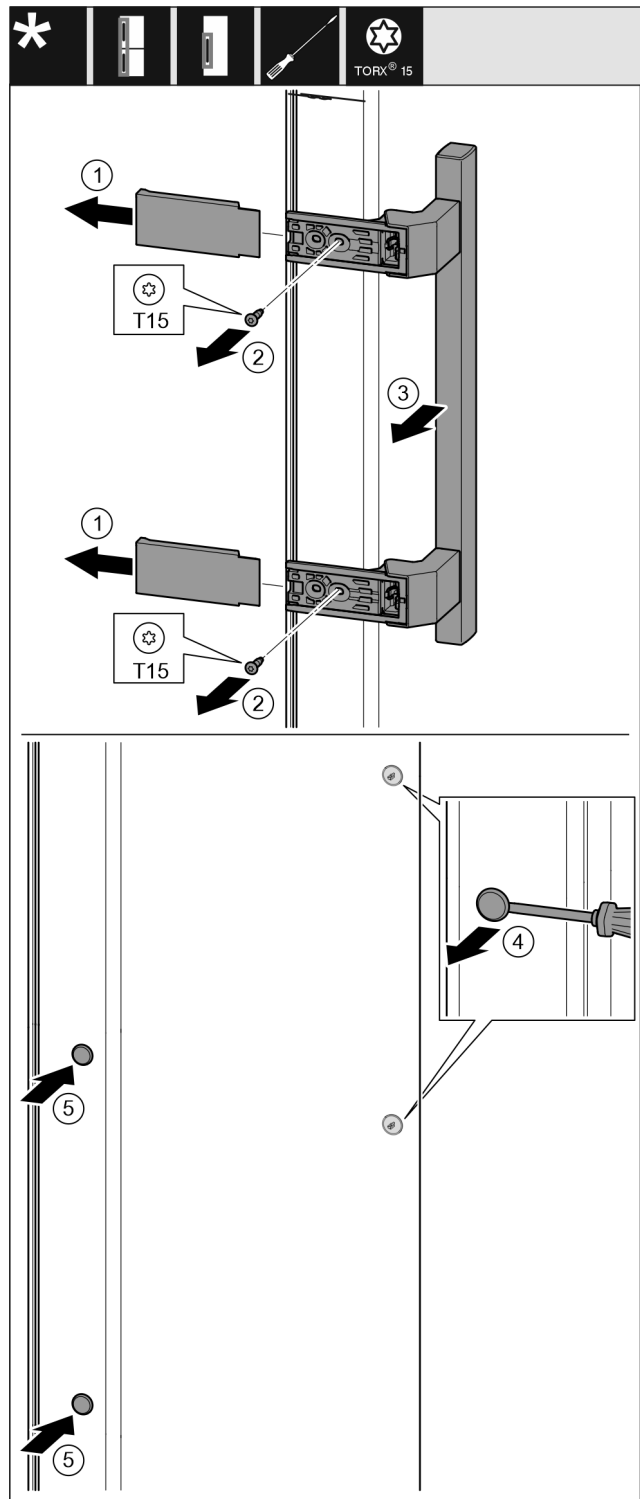

Fig. 18
- ▶ Pull off the cover. Fig. 18 (1)
- ▶ Unscrew the screws with a Torx 15 screwdriver. Fig. 18 (2)
- ▶ Take off the handle. Fig. 18 (3)
- ▶ Carefully lift the side plug with a slotted screwdriver and pull it out. Fig. 18 (4)
- ▶ Replace the plug on the other side. Fig. 18 (5)